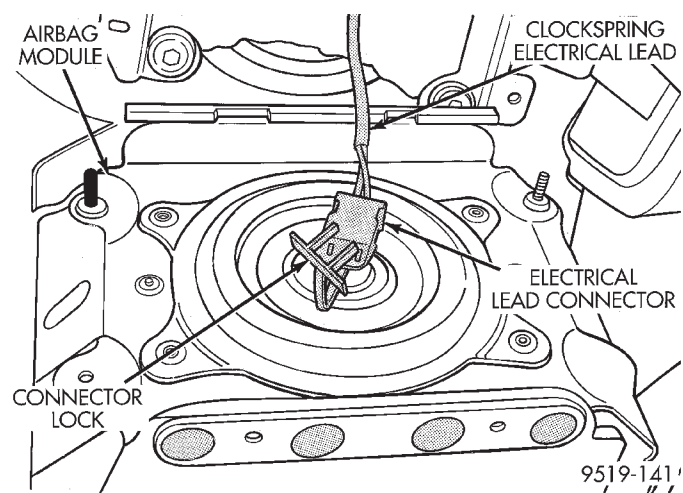

Fig. 8 Air Bag Module Electrical Lead
(10) Remove air bag module from center of steering wheel.
(11) Remove lock from clockspring air bag electrical lead connector (Fig. 8). Then disconnect clockspring electrical lead connector from the back of the air bag module (Fig. 8).
(17) Install air bag electrical lead from clockspring, into connector on back of air bag module. Insert locking tab into back of air bag connector (Fig. 8). **Be sure electrical connector from clockspring is securely latched into air bag module connector.**